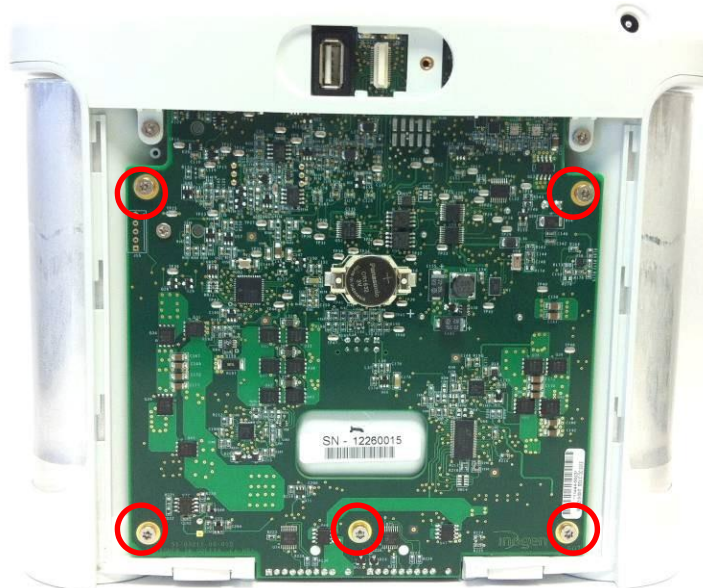

Figure 9: Motherboard screws
4. Unscrew the five screws that attach the motherboard to the chassis on the back side of the device (Figure 9).
4. Reinstall the five screws that attach the motherboard to the chassis (Figure 9). Tighten screws to 4.5 in-lbs.